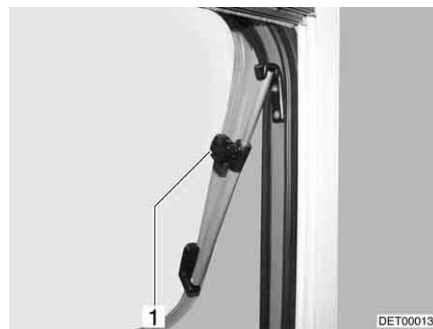

Fig. 73 Hinged window with rotary hinges
- Open the hinged window until the required position has been reached and use knurled knob (Fig. 73,1) to secure in position.
- Turn knurled knob (Fig. 73,1) until the latch is released.